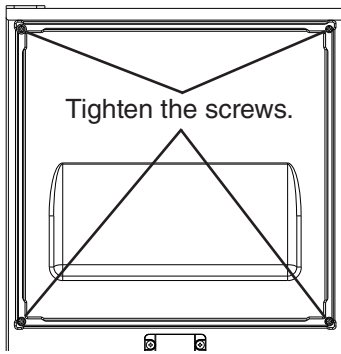

Fig. 26
7) Tighten the four M4×25 pan head screws installed in step 5. See Fig. 26.